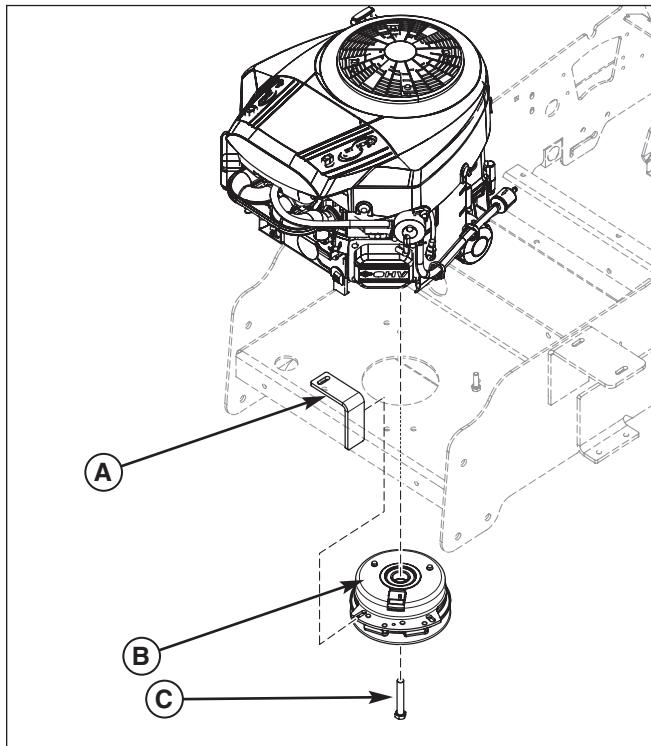

Figure 42. Removing the PTO Clutch
3. Loosen and remove the crankshaft bolt (C, Figure 42) and the PTO clutch (B) from the engine crankshaft.
6. Reinstall the spring anchor eyebolt (G) into the anchor tab and loosely fasten the nut. Adjust the anchor eyebolt until a measurement of 5-7/8" (14.92 cm) is achieved from the outside if the spring hooks. Tighten nut.
*NOTE: Make sure that the slot in the PTO clutch lines up with the PTO clutch mounting tab (A, Figure 42) underneath the engine deck.*